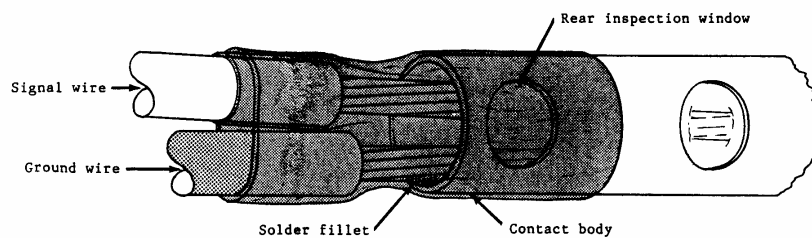

Figure 6-2. Solder Fillet Between Ground Conductor And Contact Body
2. The solder in the inspection windows near the rear of the contact must have melted and flowed into the contact through the rear inspection windows, and a solder fillet must be visible between the low signal conductor and the rear of the contact body (Figure 6-2).